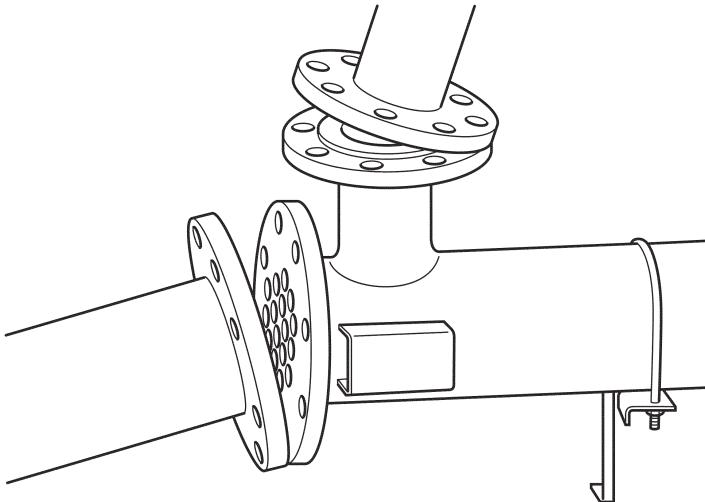

Fig. 7
4.8 Ensure that heat exchangers are suitably situated on a level surface and are fully aligned to any adjoining pipe connections (Fig. 7).